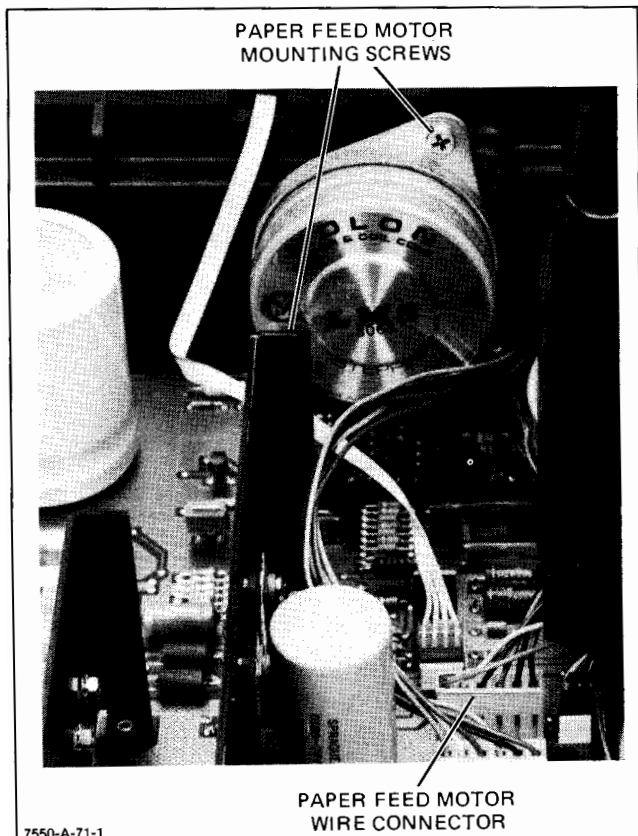

Figure 6-29. Paper Feed Motor Removal
- Remove the two paper feed motor mounting screws to release the motor. See Figure 6-29. If necessary, release the Main PCA and slide it forward to access the lower paper feed motor mounting screw.
- Remove the paper feed motor mounting screws and remove the motor. See Figure 6-29.